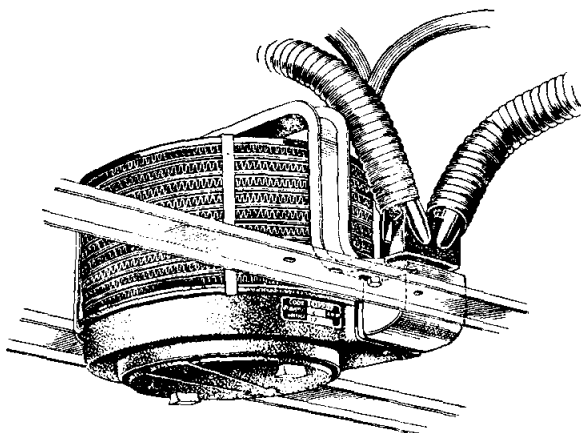

Fig. 14 Heater Unit in assembled position
15. Fit the two lengths of demister hose (2)&(3) to the demister pipe "Y" shaped air duct (4) and install into the alloy elbow piece (5) (fitted in No. 11) on the heater unit (Fig. 14). The longer length of hose should be attached to the L.H. side demister nozzle and the shorter to the R.H. side demister nozzle.